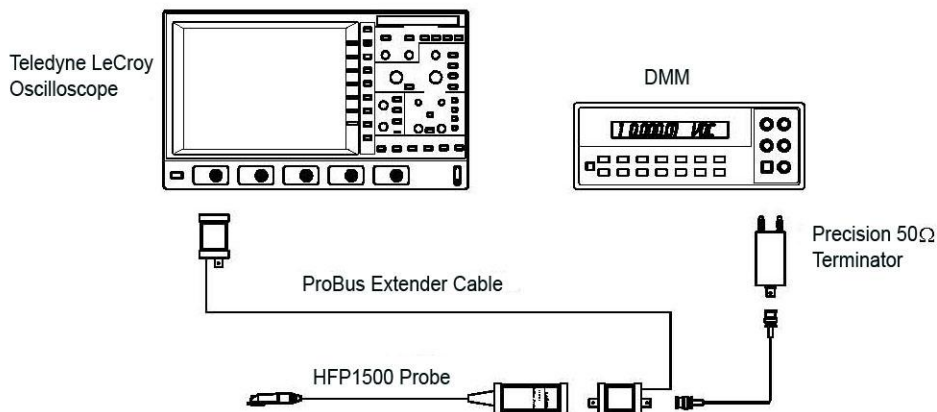

Figure 7 Output Zero Voltage Adjustment Setup
2. Connect the banana plugs of the precision 50 Ω terminator to the input of the DMM. Make sure the plug corresponding to the BNC shield (marked 'Ground') is connected to the LO or COMMON input of the DMM. Refer to Figure 7 Output Zero Voltage Adjustment Setup for setup information.